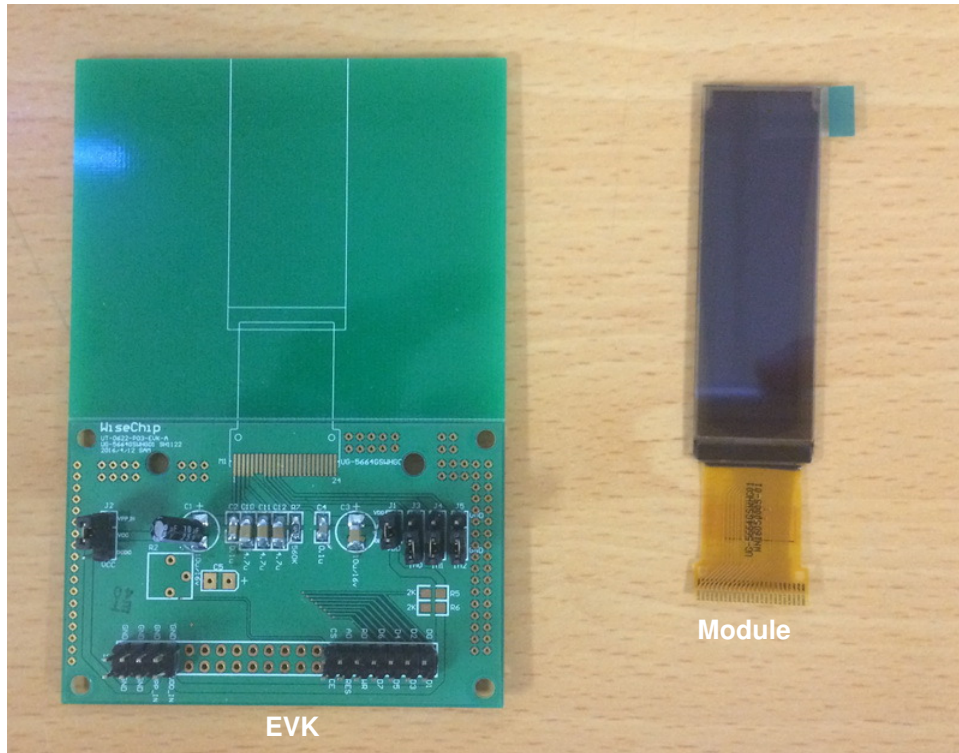

Figure 1 EVK PCB and OLED Module
**UG-5664GSWHG01** is COG type module, please refer to Fig1, Fig2. User can use leading wire to connect EVK with customer's system. The example shows as Fig3.